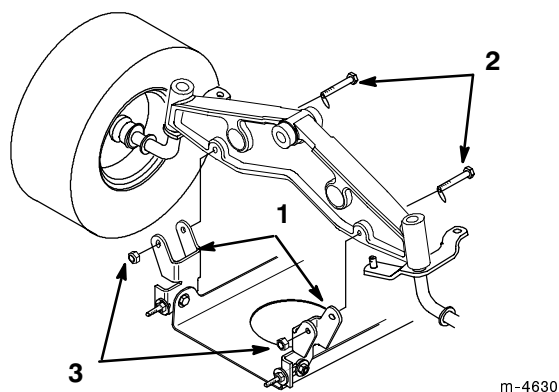

Figure 42
9. Remove the bolts and locknuts and pull the two mower pivot mount brackets down from the front axle (Fig. 42).